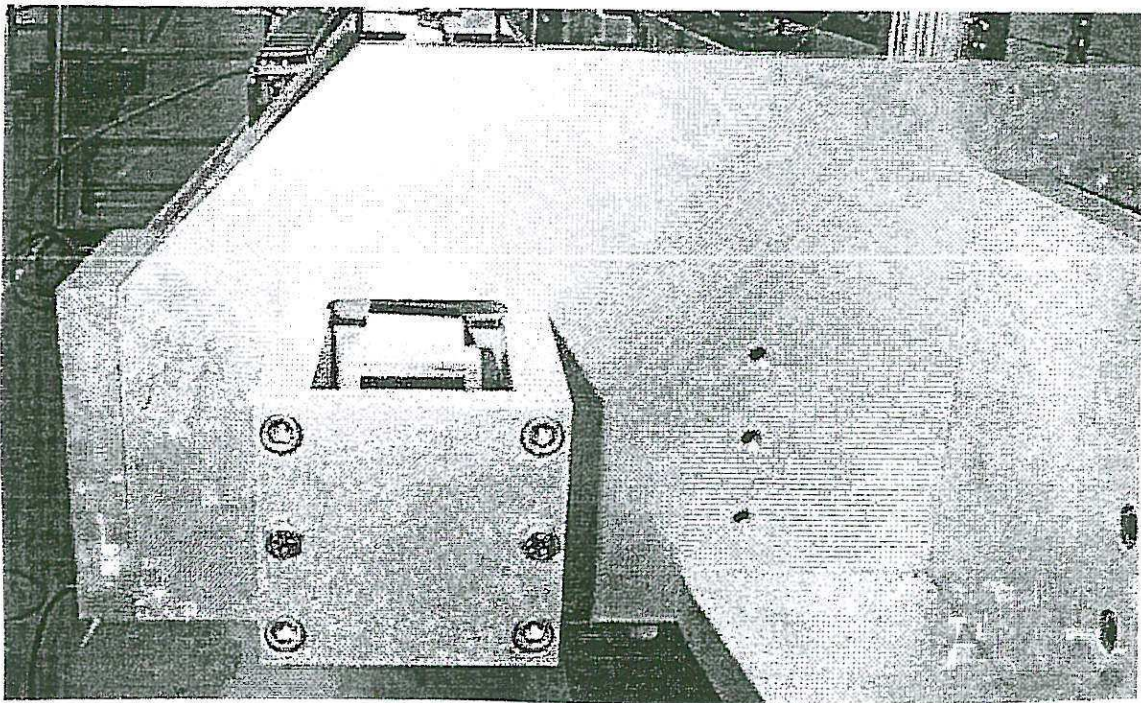

FIG. 8
- 8- WHEN THE 1/4" DEFLECTION IS ACHIEVED ON BOTH ASSEMBLIES, THEN JOG THE SYSTEM FORWARD AND BACKWARD FOR ENTIRE STROKE OF THE MACHINE. YOU WILL NOTICE THE STEEL TIMING BELTS SHIFTING ON THE IDLER PULLEYS. THIS IS DUE TO TIMING BELTS FORMING A CONE PROFILE WHERE THE SIDES OF EACH BELT ARE AT DIFFERENT LENGTHS. TO CENTER THE STEEL TIMING BELTS, MAKE USE OF THE TWO 5/16 HEX HEAD SCREWS. SEE FIG. 8.